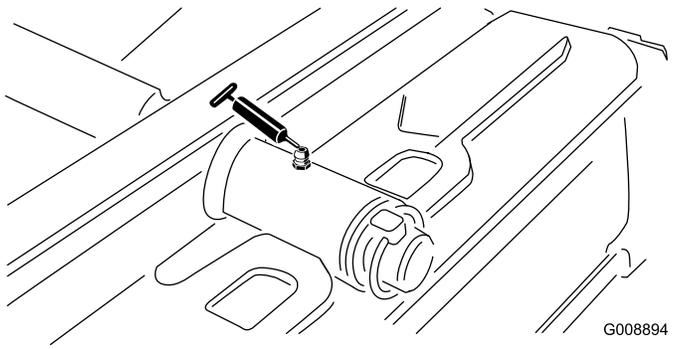

Figure 31
- Rear cutting-unit pivot (Figure 31)